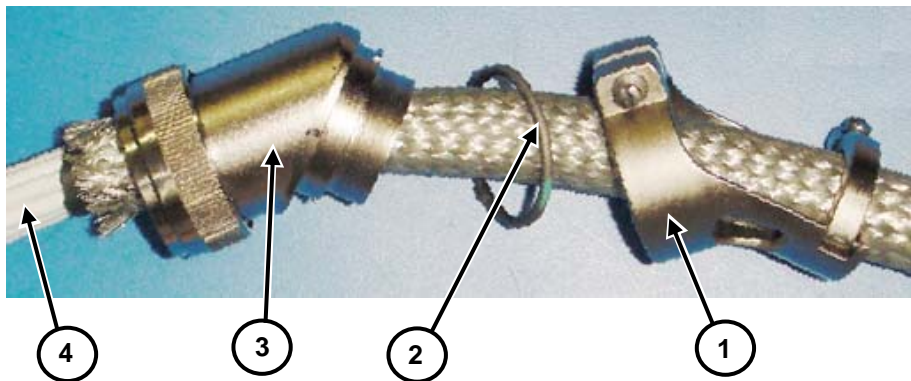

Figure 4. Mounting Backshell, Tinel-Lock Ring, and Strain Relief
See Figure 4.
3. Pass the strain relief (1) onto the cable bundle, followed by the Tinel-Lock ring (2), then the backshell (3) over the cable bundle as shown in Figure 4.